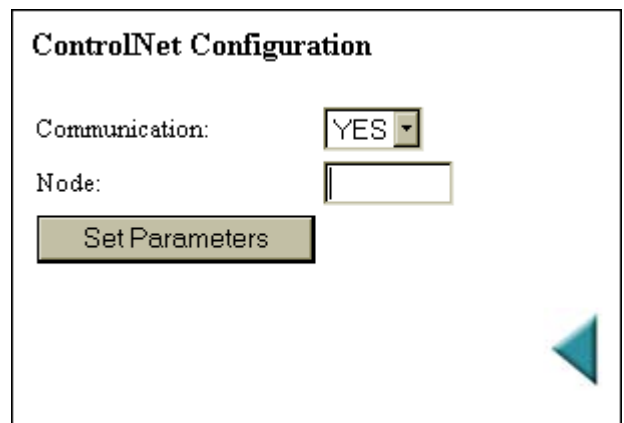

FIG. 61: CONTROLNET CONFIGURATION PAGE/ENTERING NODE ADDRESS
Step 6. Click in the Node text field. (See Fig. 61)